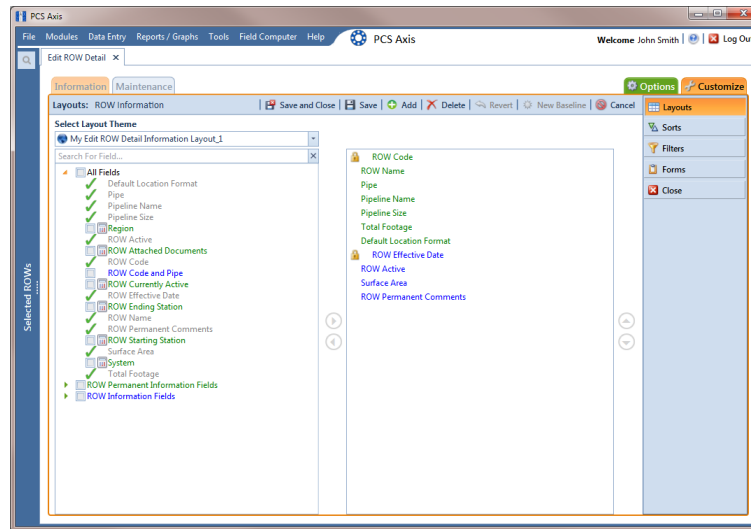

Figure 4-34. Layouts
- 7 Click  **OK** to save changes and return to the *Layouts* page (Figure 4-34).
NOTE: Fields with a lock icon  are required and cannot be removed from the theme, such as  **ROW Code** shown in the previous example (Figure 4-34, page 170).